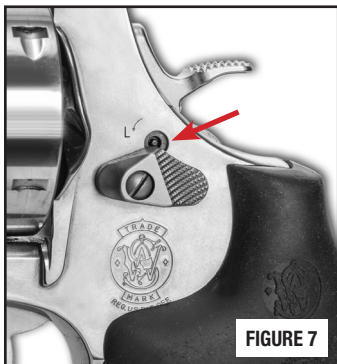

FIGURE 7
- This feature prevents hammer and trigger motion when locked. On revolvers with internal lock mechanisms, markings on the left side of the frame, adjacent to the lock, indicate the locking direction. In addition, revolvers with fully exposed hammers display a flag marked “LOCKED” when the revolver is locked. This lock requires an external key to engage and to disengage the revolver lock. The lock is located adjacent to and slightly over the thumbpiece (FIGURE 7).